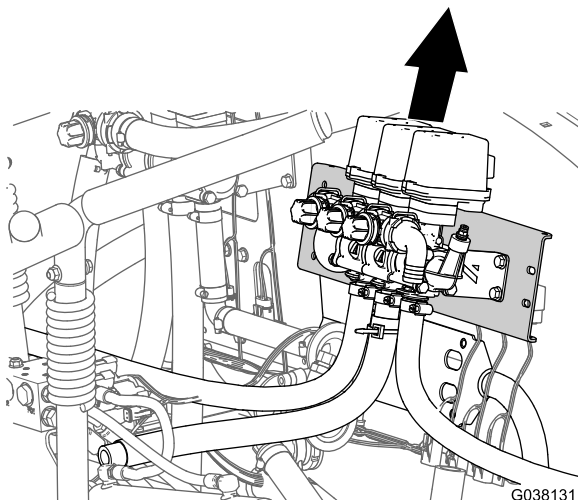

Figure 19
2. Lift the boom-section valves, supply hoses, and section-valve bracket from the machine (Figure 19).